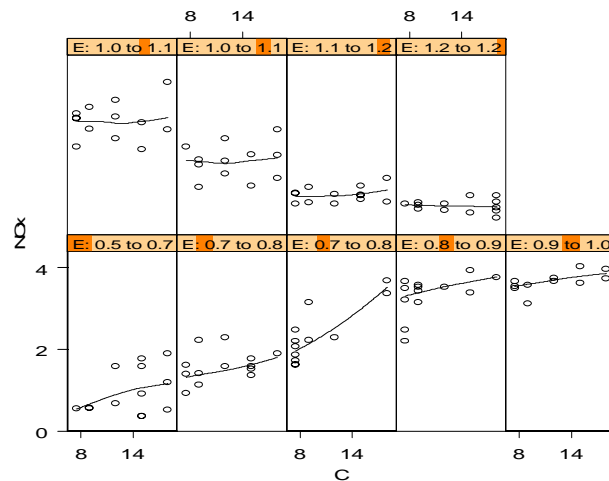

Figure 3.40: *Compression ratio versus nitrogen oxide conditioned on equivalence ratio.*
4. Click the **Position/Size** tab of the dialog. Type 2.5 for **Aspect Ratio** and click **OK**. The resulting graph is shown in Figure 3.40.